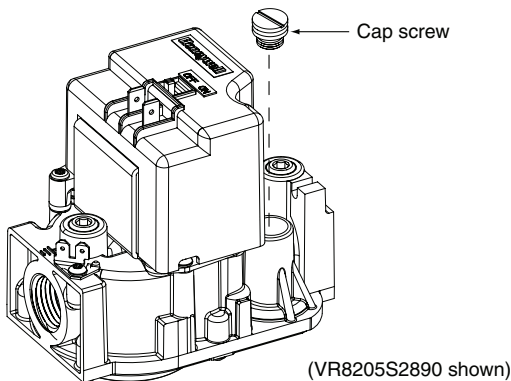

Figure 2. Cap Screw Removal
1. Remove the cap screw from the gas valve as shown in Figure 2.
1. Single stage gas valve: Remove the cap screw from the top of the gas valve regulator. See Figure 2 (page 4) for VR8205S2890 or VR8215S1289 models.
2. Using a screwdriver or Allen wrench (where appropriate), slowly turn the adjustment screw till the appropriate manifold pressure listed in Table 2 is achieved. See Figure 2 for VR8205S2890 or VR8215S1289 models.